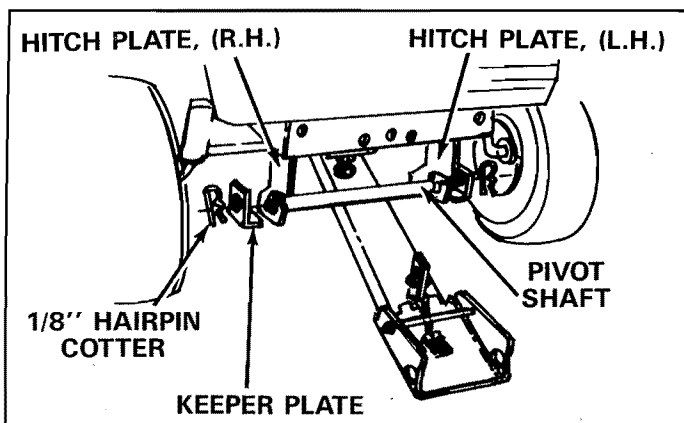

FIGURE 7
3. Assemble keeper plates over each end of pivot shaft with lip under hitch plates (see figure 7) and secure with two 1/8" (large) hairpin cotters through small holes near each end of shaft.